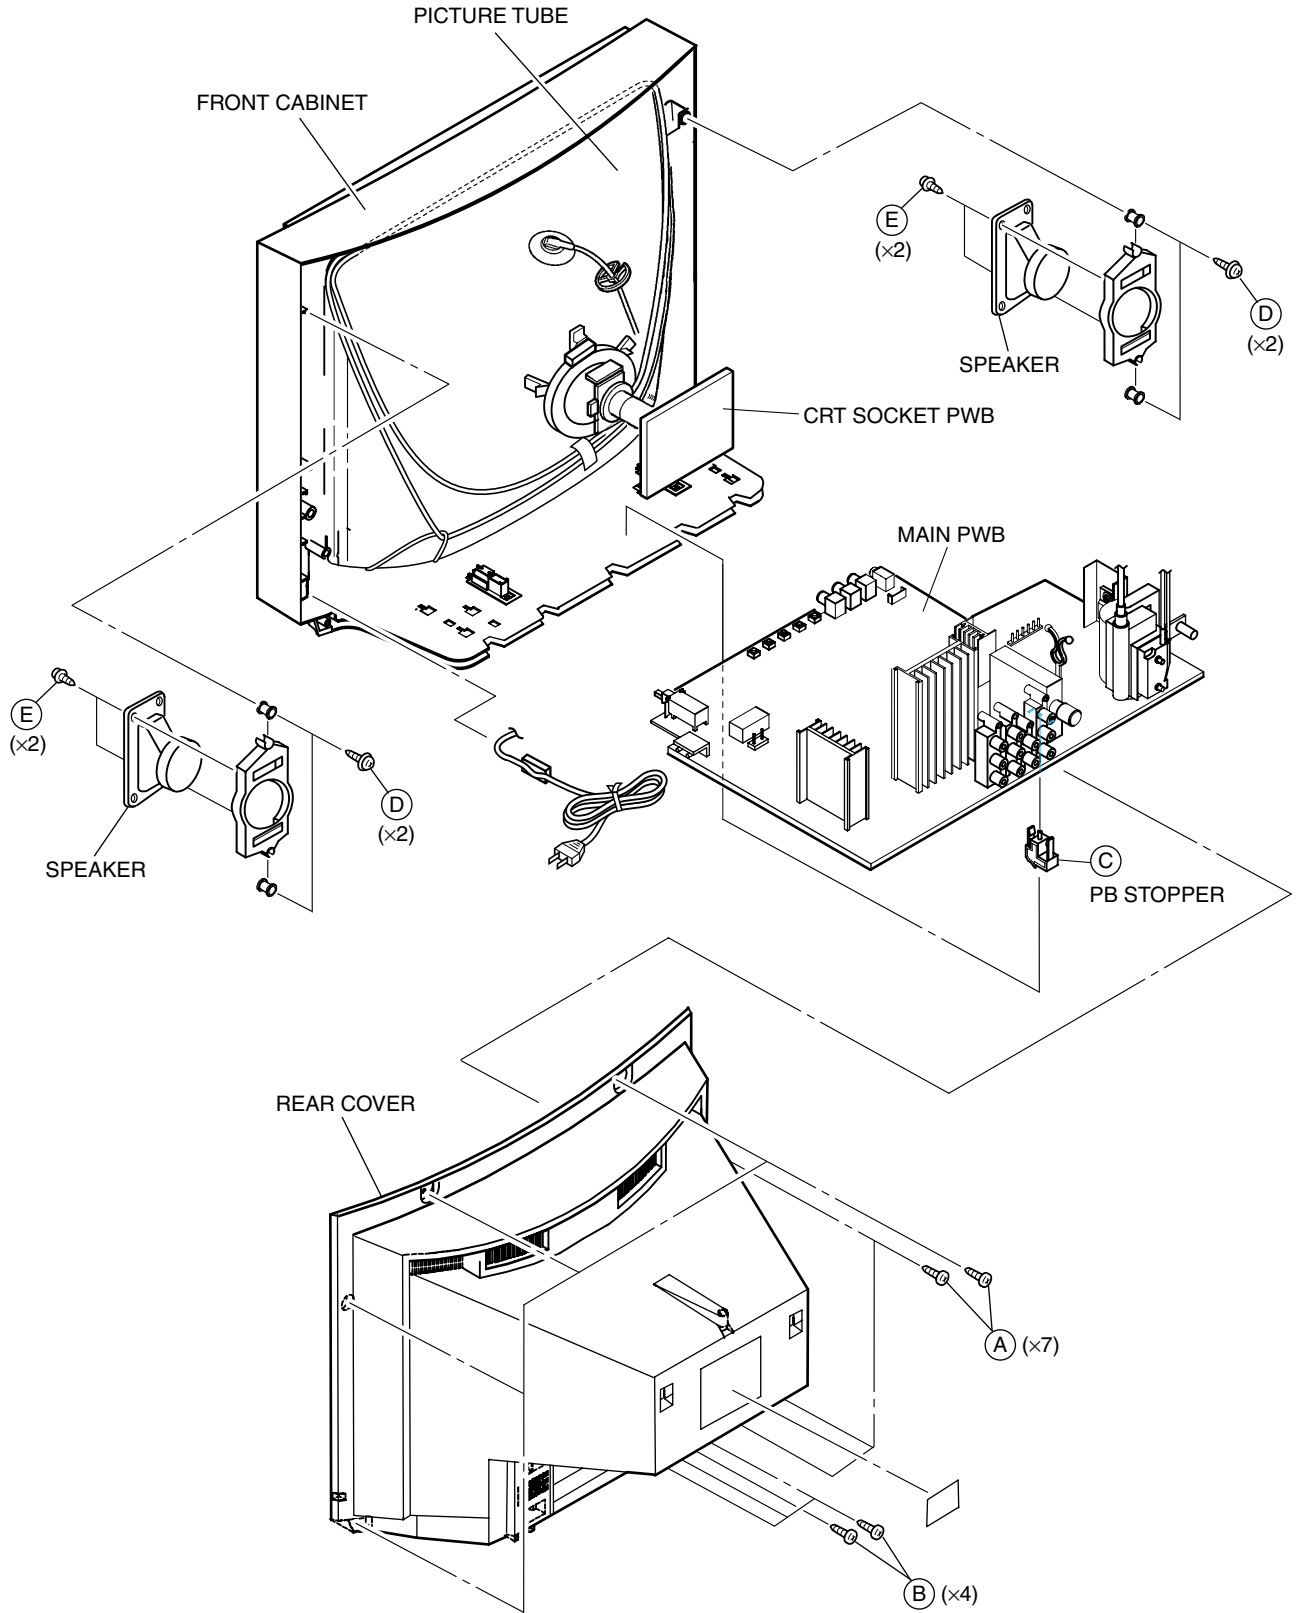

Fig.1
1. Remove the 2 screws marked (D) and 2 screws marked (E) as shown in Fig. 1.